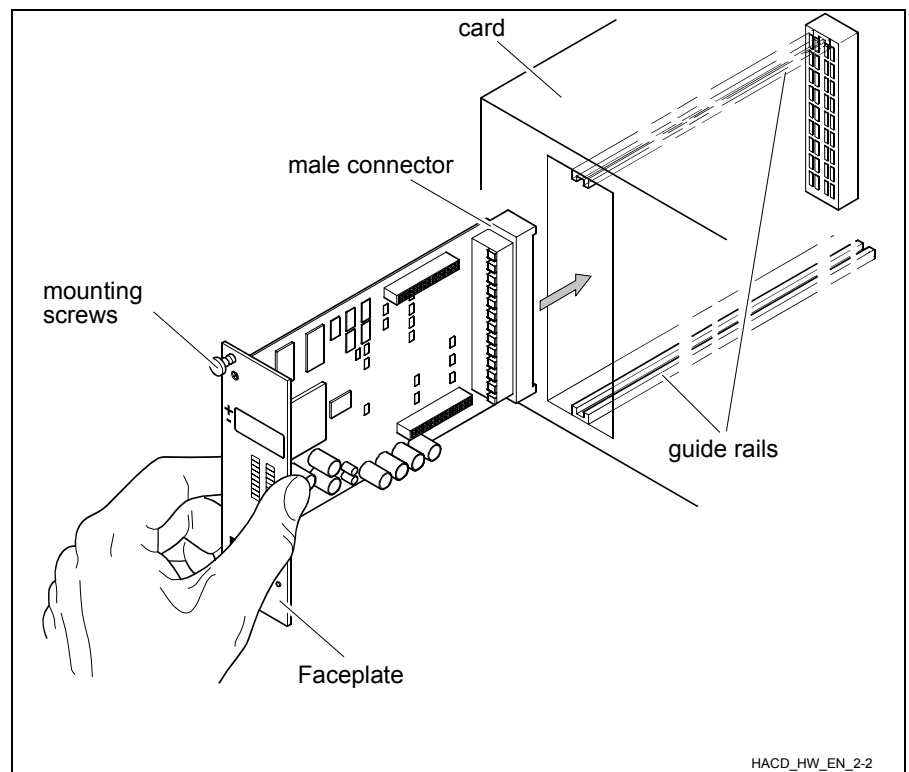

Fig. 2 Installing the controller card
Do not touch any electrical components when placing the controller card in its proper card holder as shown in Fig. 2..
- ▶ Slide the card into the guide rails of the rack without using excessive force, as shown in Fig. 2 “Installing the control card”.